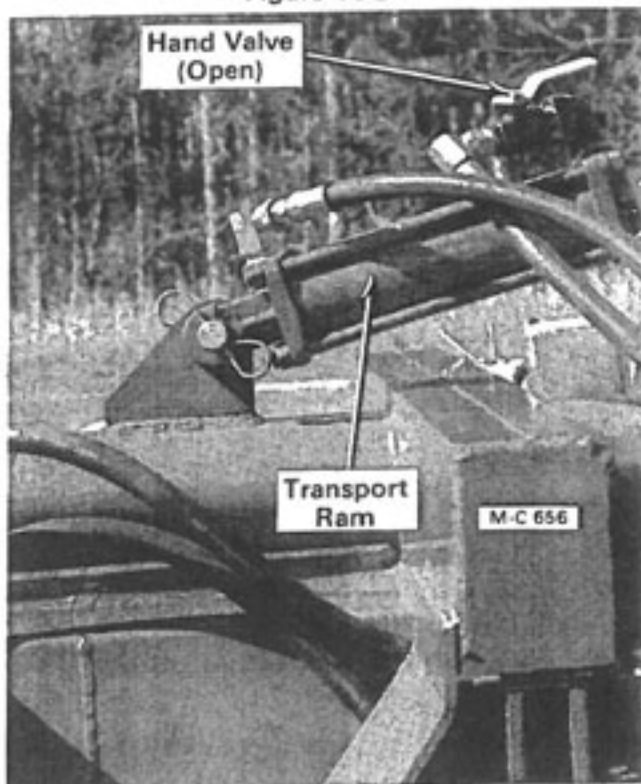

Figure 15H
8. Connect the transport ram hydraulic hose to the tractor. Open the hand valve on the transport ram, see Figure 15H.